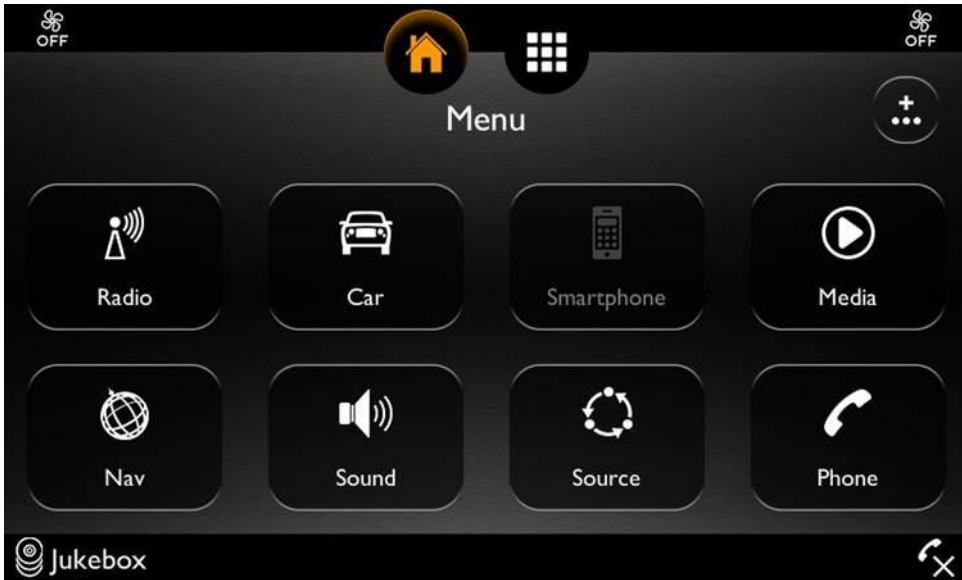

Figure 6
9. Navigate to the main menu screen (Figure 6) by pressing the home button.